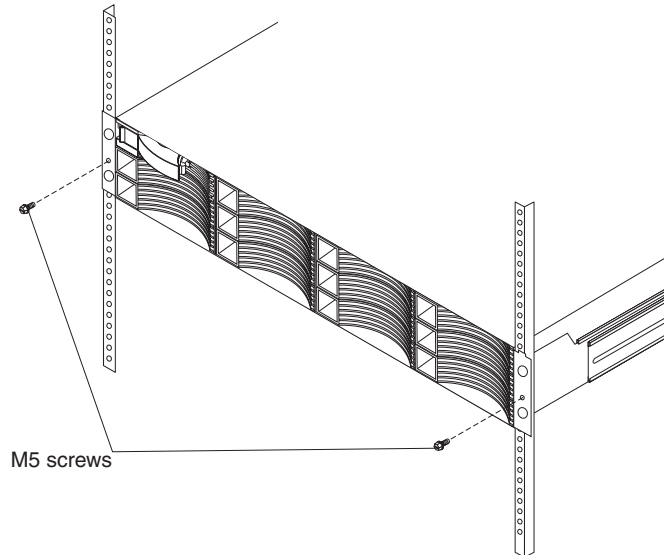
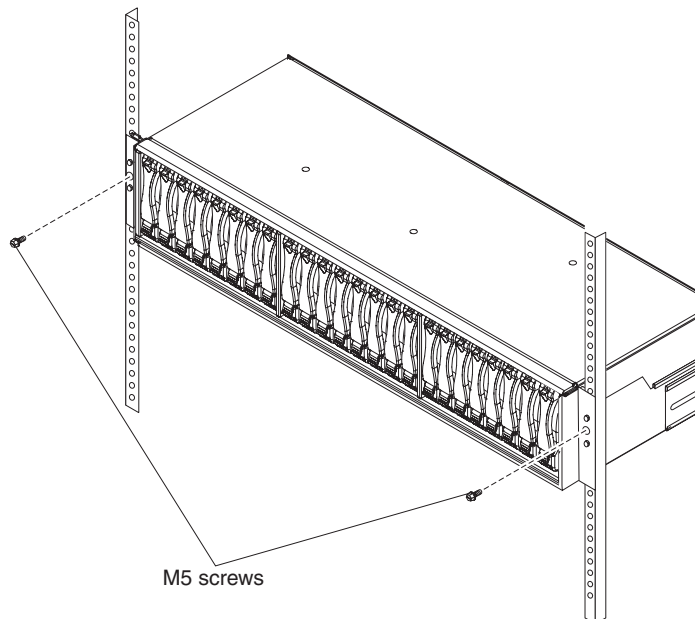

Figure 11. Securing a DS3512 or EXP3512 to a rack
Figure 12. Securing an DS3524 or EXP3524 to a rack
4. Install and tighten one M5 screw in the support hole on each side of the front of the storage subsystem or expansion enclosure (no washer is required), as shown for the DS3512 or EXP3512 in Figure 11, and for the DS3524 or EXP3524 in Figure 12.